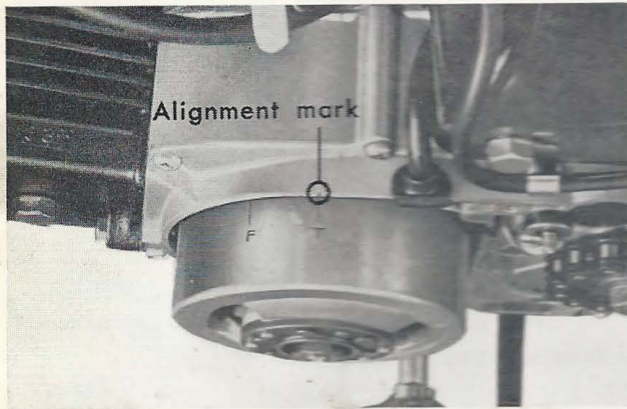

Figure 6-3. Aligning to the T timing mark
- a. Remove the left crankcase cover and align the timing mark "T" on the flywheel with the alignment mark on the crankcase. (Fig. 6-3)